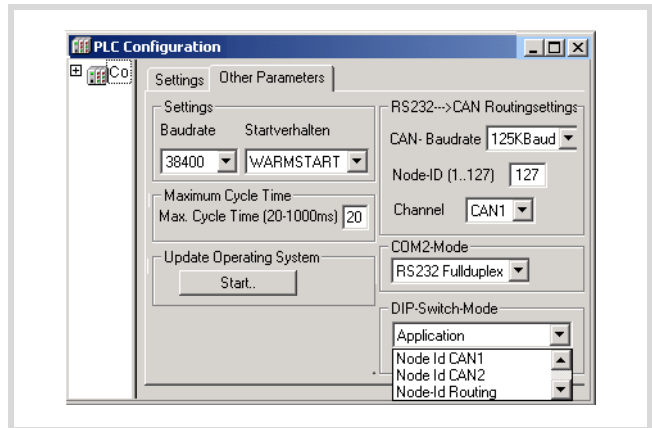

Figure 5: Mode of the application switch
- Open the Other Parameters tab in the PLC Configurator. In the "DIP-Switch-Mode" field (→ figure 5) the operating mode Node ID CAN1 or Node ID CAN2 may not be selected!